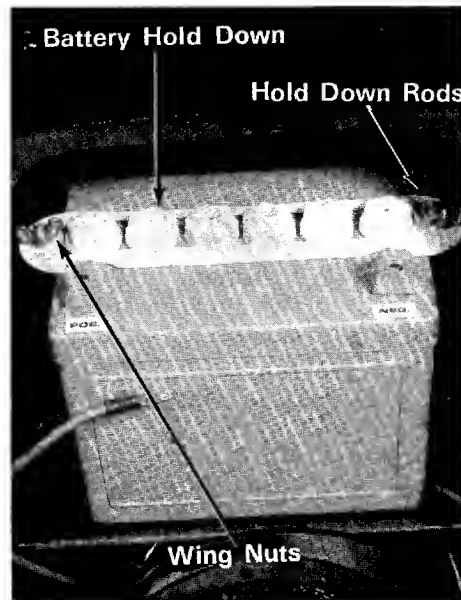

Figure 3
- 1 Place the battery in the battery case with the terminals to the front of the rider. (See figure 3.)